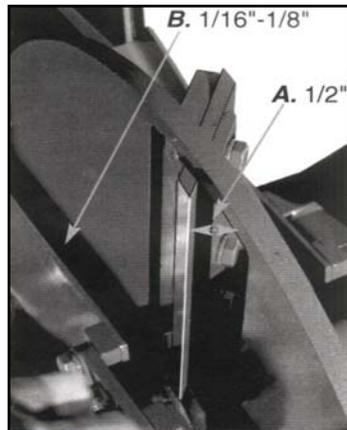

Figure 2
1. Install one knife onto chipper rotor. Set up so cutting edge protrudes past disk rotor ( 1/2"- BX60 & BX40). (See Figure 2, arrow point A). Tighten.
2. Set up stationary knife with rotor knife. Set up with 1/16" to 1/8" gap. (See Figure 2, arrow point B) Torque knife bolts to 165 ft.lb.